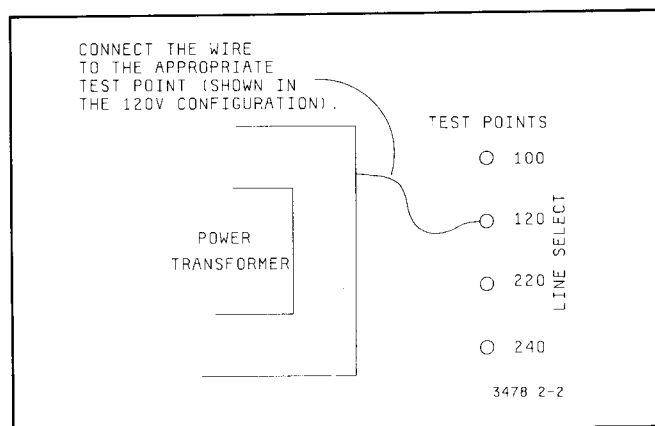

Figure 2-2. Line Select Jumper
b. Locate the Line Select wire and the line terminals. The wire and terminals are located near the 3478A's power transformer (see Figure 2-2).
c. Refer to Figure 2-2 and connect the wire to the line terminal which corresponds to the desired line voltage.